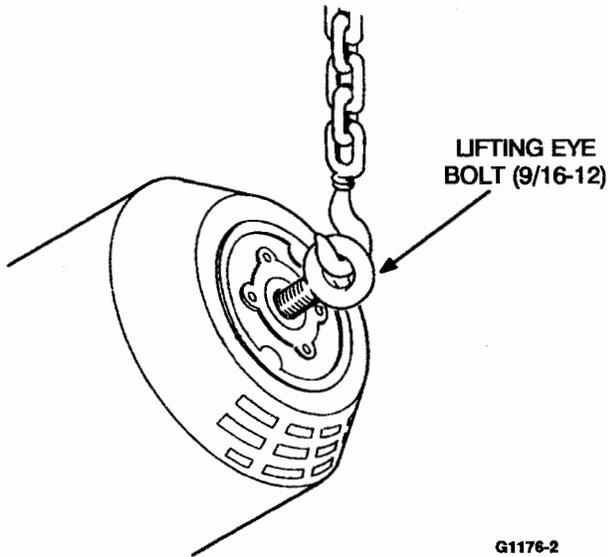

FIGURE 8-3. GENERATOR LIFT
10. Remove the rotor through-bolt and thread the special lifting eye (9/16-12) into the end of the housing. Refer to Figure 8-3.
11. Attach the lifting bolt (Figure 8-3) to the end of the stator housing.